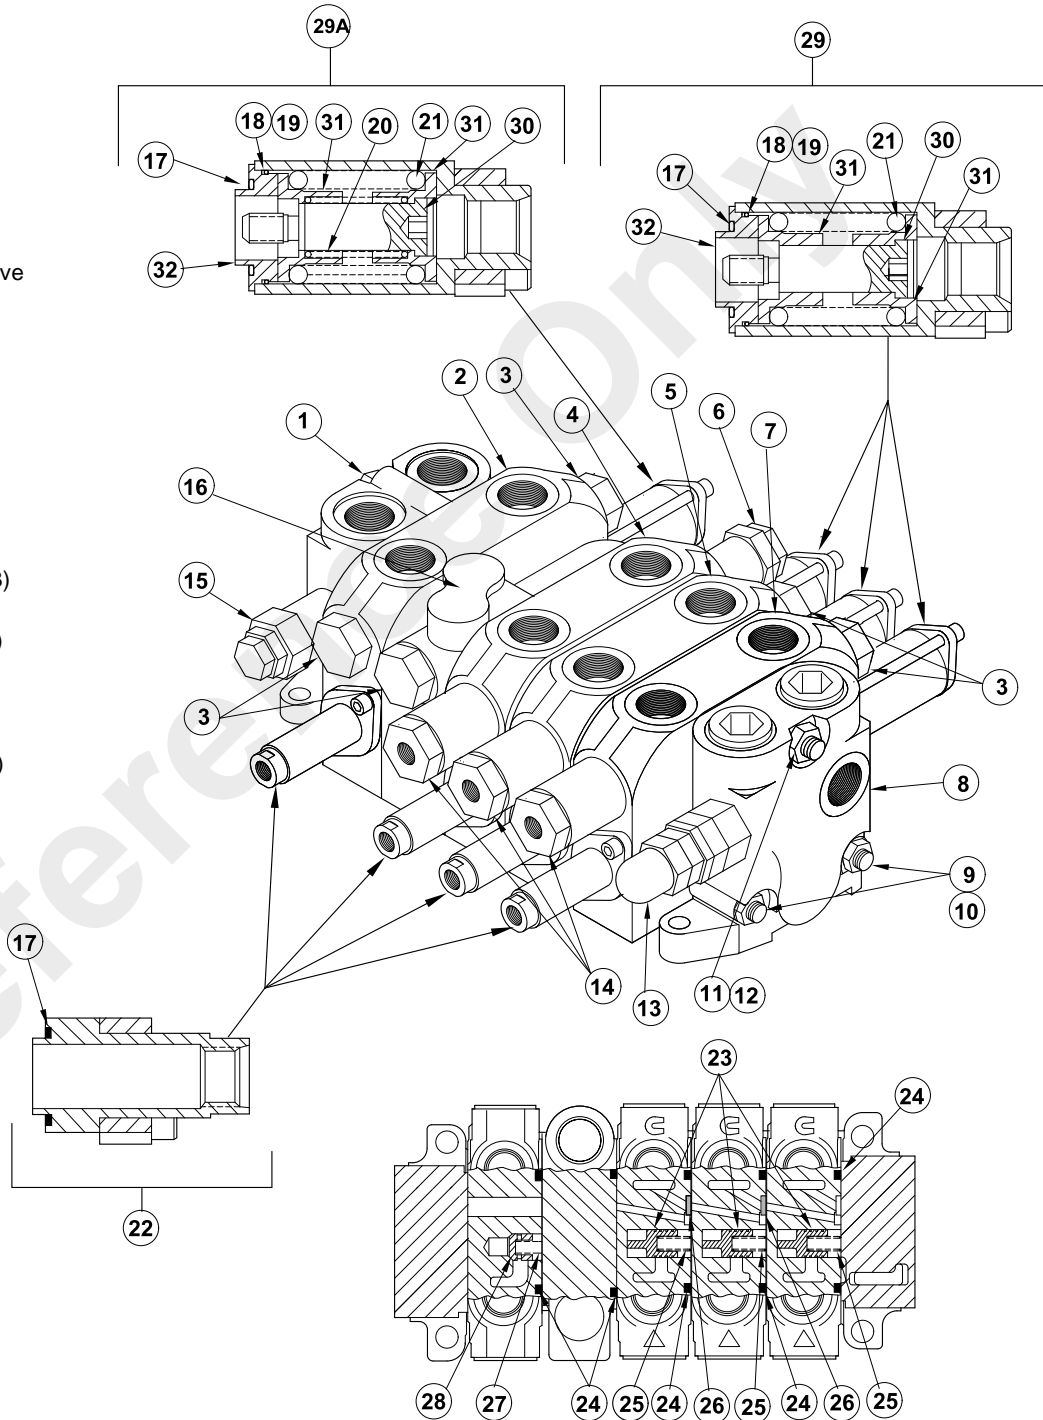

FIGURE 4-17
2. Position the valve with the load sense section (8, Figure 4-17) facing up.
3. Remove the three nuts (10 and 12) from the studs (9 and 11) at the load sense section (8).
2. Coat all seals with a light coat of hydraulic oil, and then install O-ring (17, Figure 4-17), O-ring (18) and backup ring (19) onto retainer (32).
3. Install two spring seats (31) and spring (21) in end cap (29 or 29A). On end cap (29A), also install spring (20). Secure these items using spool end shoulder screw (30). Tighten the screw to a torque of 8.2-10.8 Nm (6-8 lb-ft).
5. Install O-ring (17) onto cap assembly (22). Attach the assembly to the valve housing using two socket head capscrews. Tighten to a torque of 8.2-10.8 Nm (6-8 lb-ft).
6. Install the shut-off plug(s) (3). Tighten to a torque of 39.4-50.0 Nm (29-36 lb-ft).
7. If equipped, install the anti-void valve assembly (14). Tighten to a torque of 39.4-50.0 Nm (29 - 36 lb-ft).
8. If equipped, install port relief valve (6). Tighten to a torque of 39.4 - 50.0 Nm (29 - 36 lb-ft).
2. Assemble nuts (10 and 12, Figure 4-17) to one end of each stud (9 and 11). Insert the studs through the stud holes in the inlet valve section (1). Lay the inlet section on the work bench with the studs facing up.
3. Place O-ring (24) in position on the face of the inlet section.
4. Place the first spool valve section (2) (Swing), O-ring side up over the studs onto inlet section (1). Place O-ring (24) in position on the face of the valve section. Install the load check poppet (28) and spring (27) into the load check cavity. Be sure the nose of the check poppet is facing down.
5. Install mid-inlet section (16) over the studs and onto valve section (2). Position O-ring (24) on the mid-inlet section.
6. Install the second spool valve section (5) (Telescope). Position O-ring (24) on the valve section.
8. Position load sense valve section (8) on the last working valve section and hand tighten stud nuts (10 and 12).